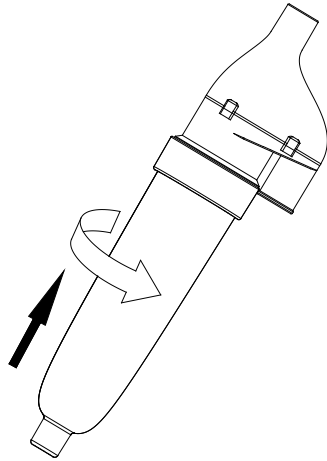

Fig.01
1. **How to equip the dust cup on body** : Please see the mark of “UNLOCK” , “LOCK” position, insert firmly the dust cup on the body from the “UNLOCK” position, then rotate the dust cup to the “ LOCK” position. Then the dust cup is equipped on the body. This attachment is ready for use. (Fig.01).
2. **How to release the dust cup from the body**: Rotate the dust cup from the position of “ LOCK” to “ UNLOCK” position. Then pull out the dust cup from the body. (Fig.01)